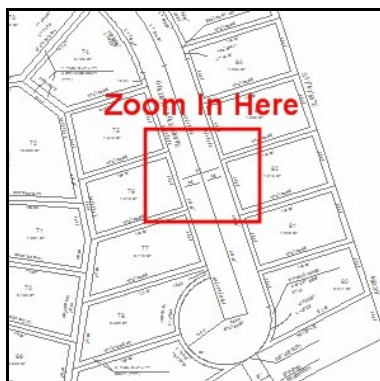

Figure 1
- Set the corners of the zoom window to approximately the square shown in Figure 1. The selected area should now fill the GDI Display.